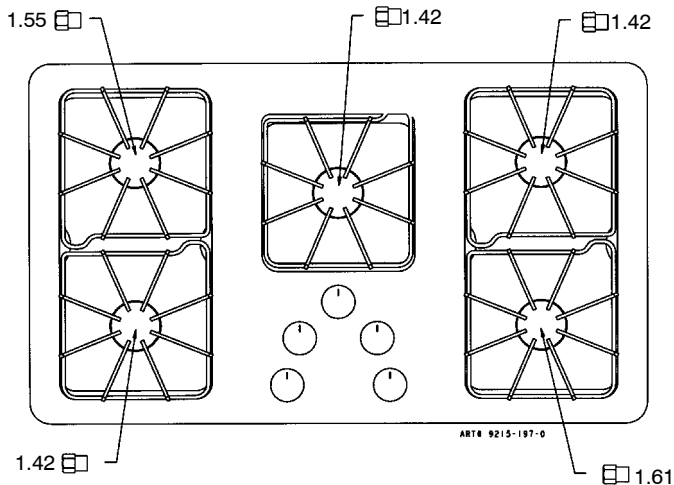

FIGURE 13
3. For Step 4: Locate the brass natural gas orifice spuds that were originally installed in this appliance before its conversion for use with LP gas. Observe the number on each of the spuds and note the correct burner location for each spud as shown in figures 13 and 14.